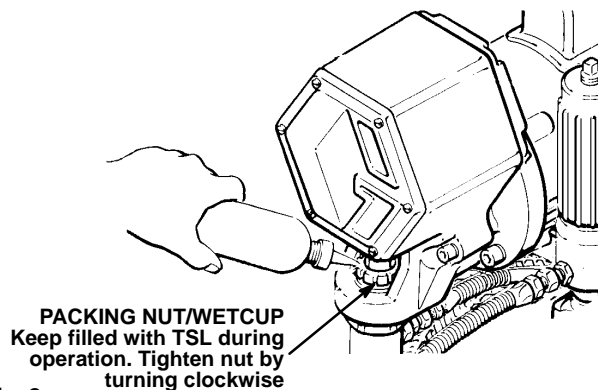

Fig 6
- Check the packing nut/wet-cup daily.** First relieve pressure; see page 9. Be sure the wet-cup is 1/3 full of TSL at all times to help prevent fluid buildup on the piston rod and premature wear of packings. The packing nut should be tight enough to stop leakage, but no tighter. Overtightening may cause binding and excessive packing wear. See Fig 6.